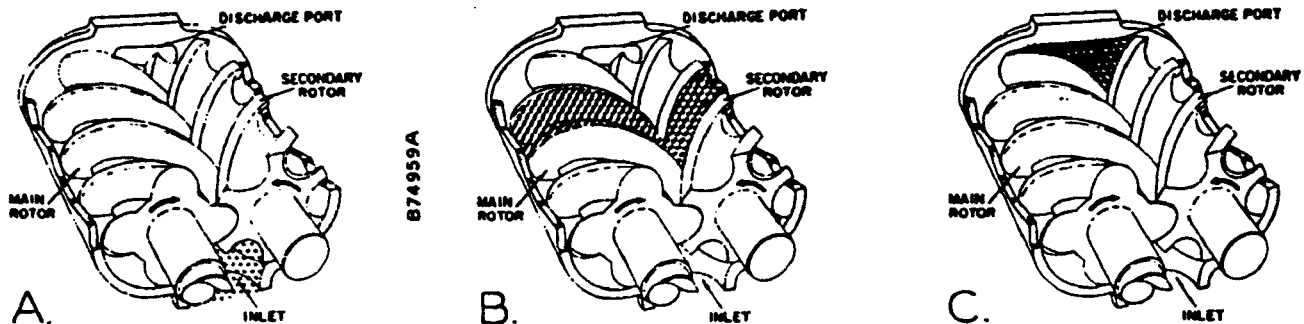

FIGURE 1-1 - COMPRESSION CYCLE
COMPRESSION PRINCIPLE (Figure 1-1) - Compression is accomplished by the main and secondary rotors synchronously meshing in a one-piece cylinder. The main rotor has four (4) helical lobes 90° apart. The secondary rotor has six (6) matching helical grooves 60° apart to allow meshing with main rotor lobes.
The air inlet port is located on top of the compressor cylinder near the drive shaft end. The discharge port is near the bottom at the opposite end of the compressor cylinder. *Figure 1-1 is an inverted view to show inlet and discharge ports.* The compression cycle begins as rotors unmesh at the inlet port and air is drawn into the cavity between the main rotor lobes and secondary rotor grooves (A). When the rotors pass the inlet port cutoff, air is trapped in the interlobe cavity and flows axially with the meshing rotors (B). As meshing continues, more of the main rotor lobe enters the secondary rotor groove, normal volume is reduced and pressure increases.